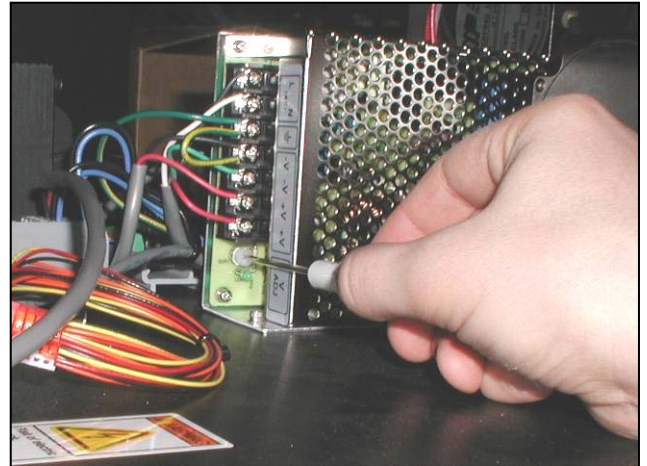

Figure 3-30. Adjusting Power Supply Voltage
- With one hand, position a small screwdriver on the voltage adjustment POT (Figure 3-30).